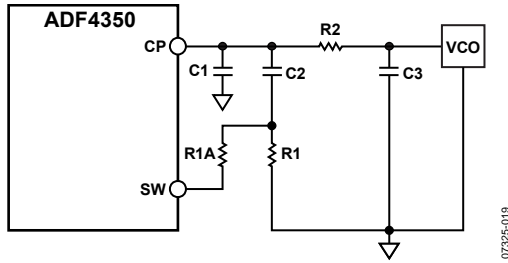

Figure 25. Fast-Lock Loop Filter Topology—Topology 2
- An extra resistor (R1A) is connected directly from SW, as shown in Figure 25. The extra resistor is calculated such that the parallel combination of an extra resistor and the damping resistor (R1) is reduced to $\frac{1}{4}$ of the original value of R1 (see Figure 25).